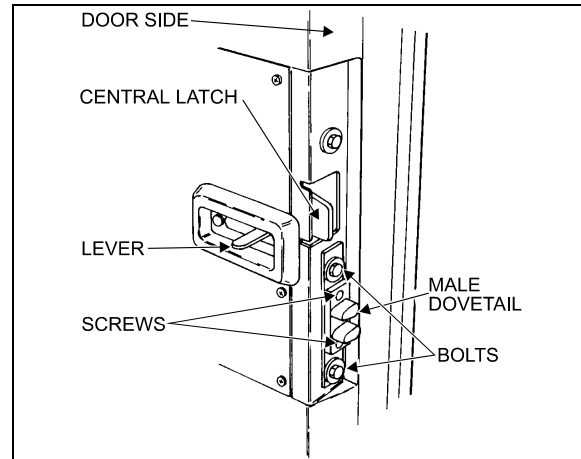

FIGURE 20: DOOR LATCH (COACH) 18059
5. To adjust the male dovetail on L.H. side of the door, remove the two screws and loosen the two bolts. Slide the male dovetail toward the interior and loosely tighten the two bolts. Close the door slowly but firmly, then slowly open it and tighten the two bolts. Attach dovetail to the door with screws. See figure 20.